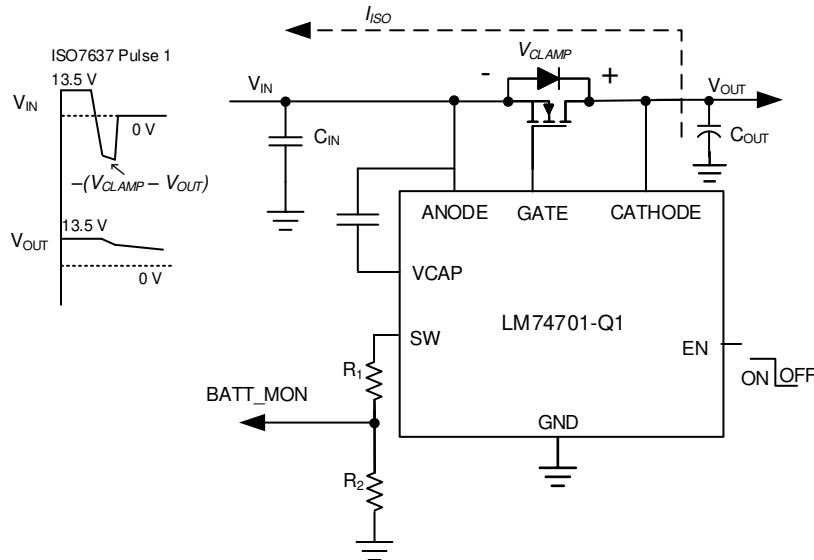

Figure 8-4. LM74701-Q1 Operation During VDS Clamp Mode
2. After the voltage across the drain and source of the MOSFET reaches $VCLAMP$ level (34-V minimum), GATE is turned ON back in the saturation region, operating external MOSFET as an active clamp and dissipates the ISO7637 pulse 1 energy. The typical circuit operation of LM74701-Q1 during ISO7637 pulse 1 is shown in Figure 8-4.